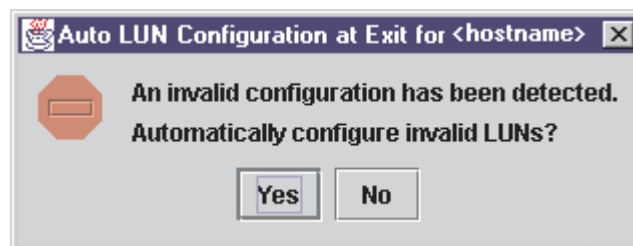

Figure 101. Auto LUN Configuration at Exit dialog window
- Click **OK** to save the changes until you exit the Fibre Channel Port Configuration window; then, review the configuration changes (see Step 3). If FASiT MSJ detects an erroneous LUN configuration while saving the configuration, the Auto LUN Configuration at Exit for <hostname> window displays (see Figure 101).